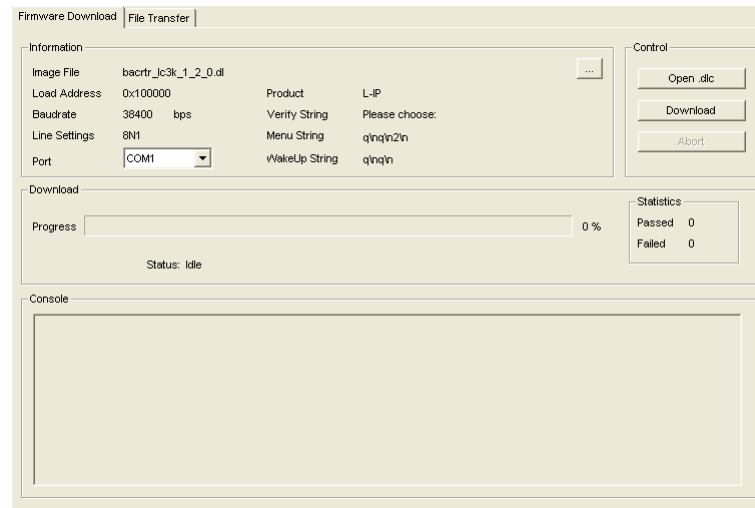

Figure 52: LSU Serial Upgrade Tool in Idle Mode
1. Double click on the *.dlc file that comes with the new firmware package. This should start the LSU Tool and load the firmware image referenced in the dlc file. Please note that the dlc file and the dl file must be stored in the same folder. The start window of the LSU tool is shown in Figure 52.